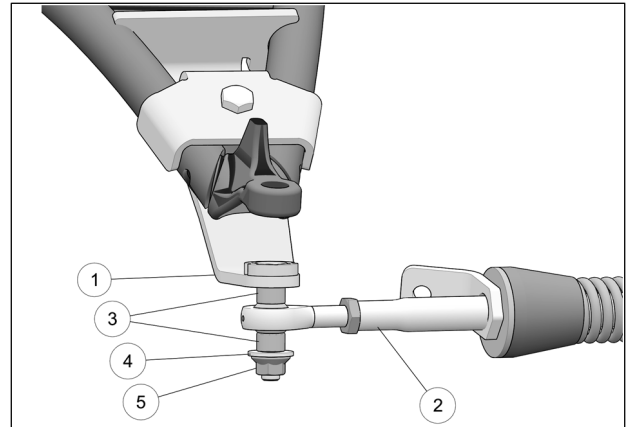

Fig. 16
8. Attach the stabilizing rod (**2**) to the anchor bracket (**1**), using the two spacer bushings (**3**), flat washer (**4**) and nut (**5**). Torque to 70 N•m [52 lb•ft]. Refer to Fig. 16